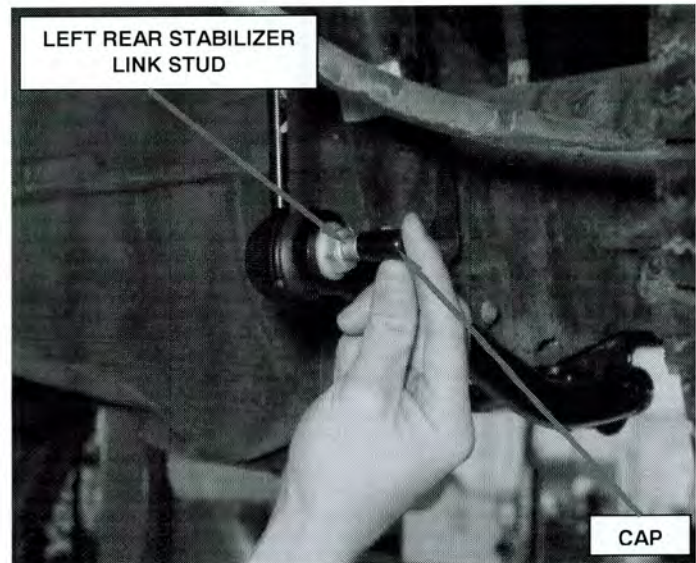

Figure 6 – Stabilizer Bar to Frame Cap
11. Install the rear stabilizer bar to frame cap to the lower left rear stabilizer link stud (Figure 6).